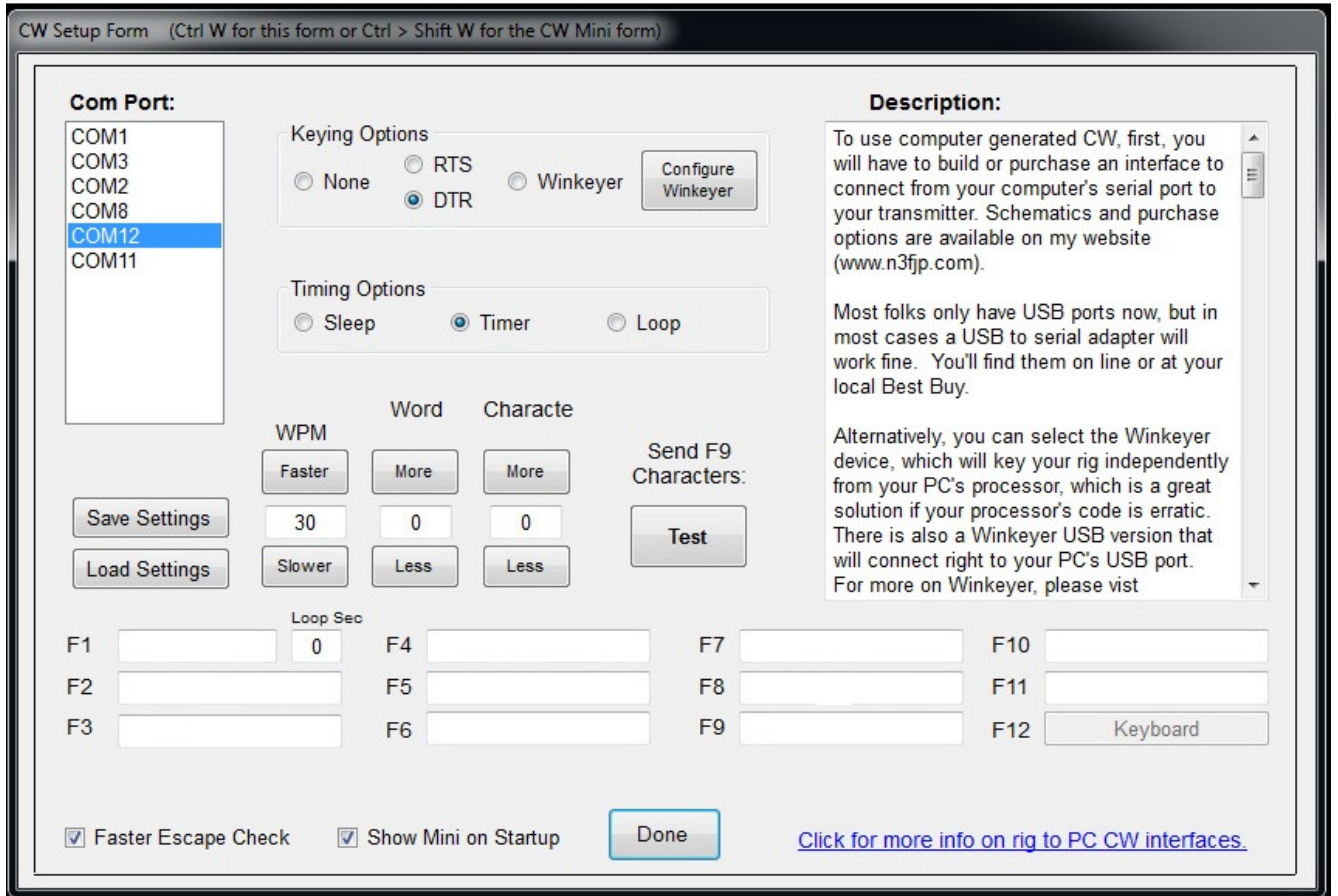

Figure 3. CW Setup screen in N3FJP's Amateur Contact Logger.
Please refer to Figure 3 and 4, on the following pages.
1. To configure the logger application to use the PTT-Key port, left click on ACL's Settings menu, then select Transmit => CW Setup. The display will show a setup form as in Figure 3.